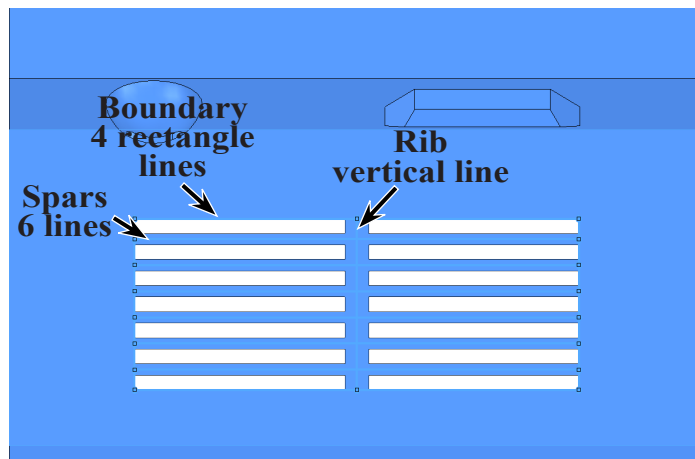

Fig. 72
click **side lines of rectangle (4)**, **Fig. 72**